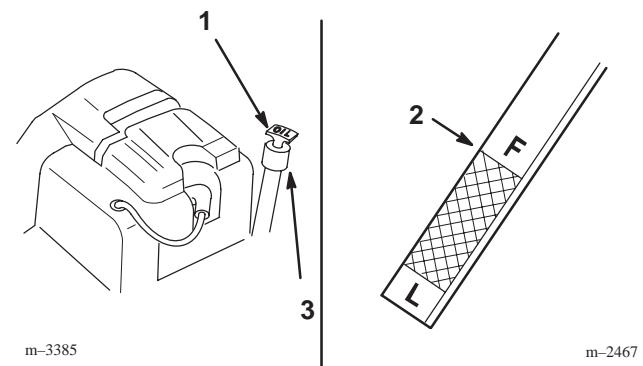

Figure 24
3. Clean around the oil dipstick (Fig. 24) so dirt cannot fall into the filler hole and damage the engine.
4. Pull the oil dipstick out and wipe the metal end clean (Fig. 24).
5. Push the oil dipstick fully into the filler tube (Fig. 24). Pull the dipstick out and look at the metal end. If oil level is low, slowly pour only enough oil into the filler tube to raise the level to the full mark.
6. Slowly pour approximately 80% of the specified amount of oil into the filler tube (Fig. 24). Now check the oil level; refer to Checking Oil Level, page 25. Slowly add additional oil to bring to the full mark on dipstick.